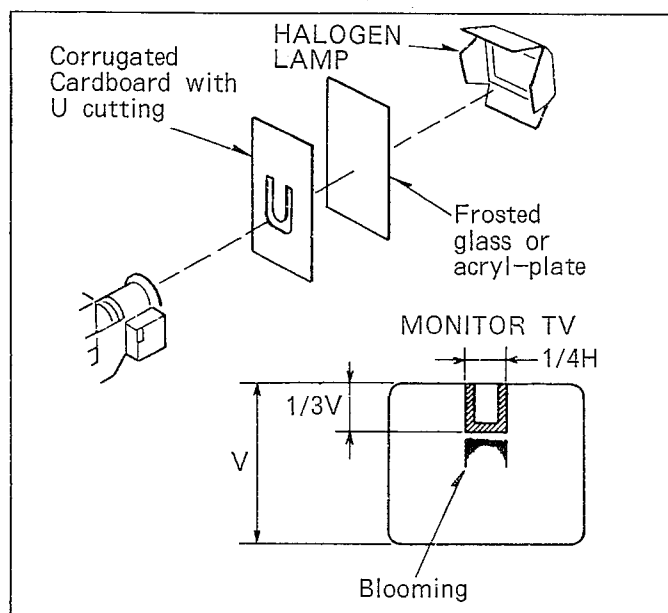
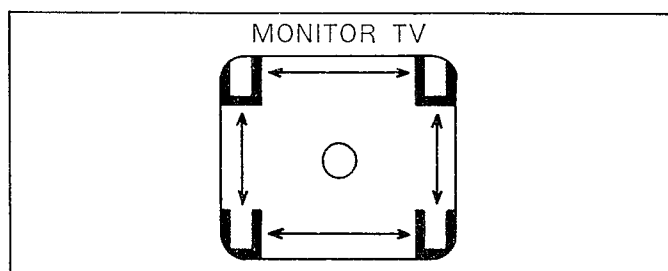

Fig. C9
Fig. C10
- (1) Zoom all the way in (Fully tele position) and aim the camera at the Halogen Lamp as shown in Fig.C9
- (2) Set the High Speed Shutter SW to "OFF" portion.
- (3) Blind the lighting using frosted glass or acryl plate to diffuse incoming light. And also put a corrugated cardboard which inside is Cut "U" shape as shown in Fig.C9.
- (4) Adjust VR303 so that blooming is just disappear. (If blooming is not disappeared completely, adjust until minimum blooming.)
- (5) High Speed Shutter "ON(1/250)" and "OFF" both mode, confirm that the monitored picture dose not contain the Blooming even if the camera moves as shown in Fig.C10